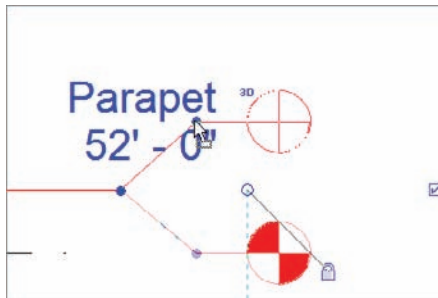

FIGURE 3.14 Dragging the level to a new position by using the grips provided
3. Now that you added the elbow, you need to move it. Notice the blue grip at each bend point. Pick the blue grip, as shown in Figure 3.14, and drag the Parapet level out of the level below.